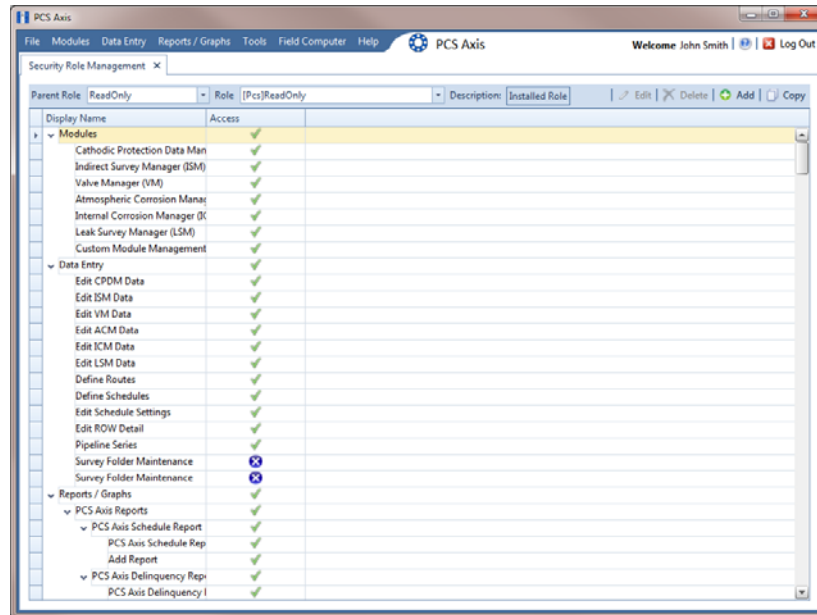

Figure 3-16. Security Role Management
- 1 Click **Tools > Security Role Management** to open the *Security Role Management* window (Figure 3-16).
- 1 If the *Security Role Management* window is not open, click **Tools > Security Role Management** (Figure 3-16, page 55).